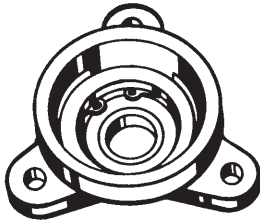

Figure 4-16
- 33. Next, drive a bearing (#24B) into the bearing arm, applying force only to the bearing's outer race. Insert a snap ring (#4B) into the groove provided in the bearing arm. The beveled side of the snap ring faces away from the bearing. (refer to figure 4-16)